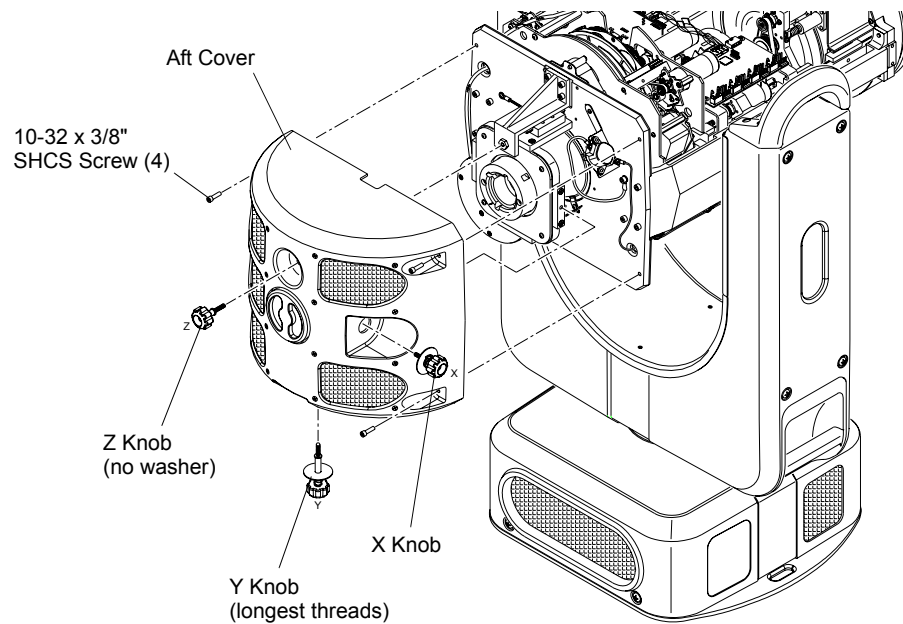

Figure 4-2: Removing Aft Cover
- Step 1. At Aft Cover, remove X, Y, and Z Adjustment Knobs (Figure 4-2).